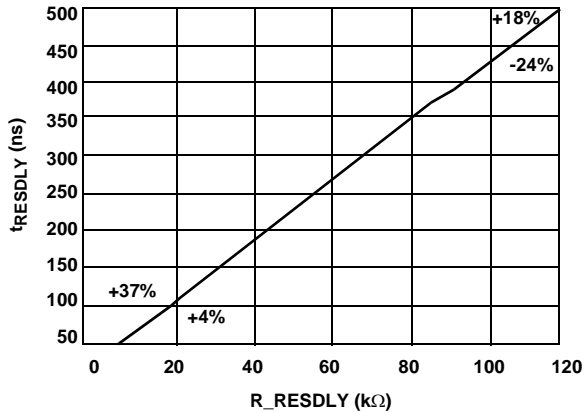

FIGURE 7. R_RESPLY vs. RESPLY
- Figure 7 illustrates the relationship of the value of the resistor (R_{RESDLY}) and the resonant delay (t_{RESDLY}). The percentages in the figure are the tolerances at the two end points of the curve.